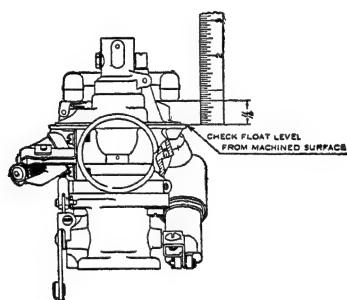

Fig. 145. Checking and Adjusting Chrysler-Plymouth Float Level
*Float Level Adjustment.* The correct float level is  $\frac{1}{8}$  inch from the top of the float to the machined surface of the casting when the needle is closed, Fig. 145. When resetting the float level, if this should be necessary, the work is done by bending the float lever lip which comes in contact with the gasoline intake needle. Bending the lip up will lower the float level and bending it down raises the gasoline level. Only a very slight bend is necessary.